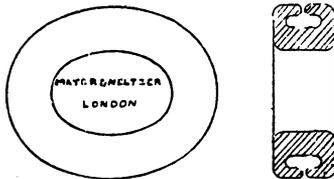

Fig. 3.—Rubber ring grooved, with recurved lips, for lateral anastomosis; side view and section.
The lateral opening is made so far away from the divided ends of intestine that it is clear of the bobbin when the anastomosis is completed, as shown in Fig. 2. This is effected by drawing the end of the bobbin with the attached sections of bowel through the lateral opening, and slipping a soft rubber ring over the bobbin as far as the broad groove (2), where the ring compresses together the peritoneal surfaces of the two sections of the bowel. The anastomosis is completed by withdrawing the protruding bobbin, etc., into the lumen of the bowel, closing the lateral opening and stitching the mesentery, as shown in Fig. 2. For lateral anastomosis—for example, gastro-enterostomy—I have devised the simple oval rubber ring, the side view and section of which are shown in Fig. 3. The margins of the two lateral openings in the bowel, etc., are secured in turn by purse-string stitches to the bottom of the groove in the rubber ring, and the anastomosis is completed by Lembert's stitches.